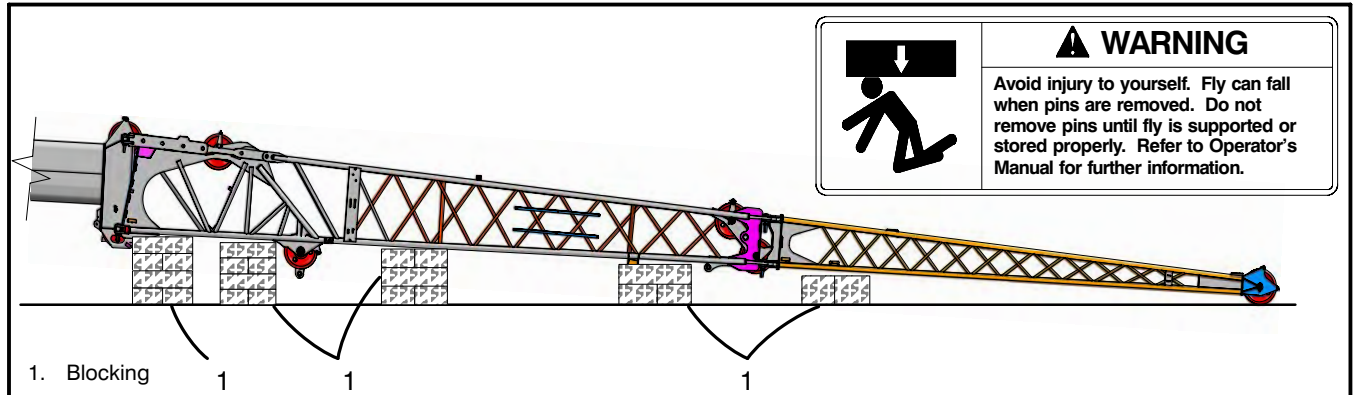

Figure 4–14
The crane may be equipped with either a one, two, or three piece offset lattice fly. The offset lattice fly section, as shown in Figure 4–15, connects to the main boom head. It can be used in one of four offset positions: 2°, 15°, 30°, or 45°. The fly extends the boom length for greater heights. The fly center section extends the fly from 10 ft (3.0m) to 31 ft (9.4m). The tip section of the fly extends its overall length from 31 ft (9.4m) to 55 ft (16.8m). Once installed, the offset lattice fly section(s) can be stored on the right side of the boom base section.
2. Check that the fly adaptor lug and offset connecting pins are installed in the 2° offset position. Refer to Figure 4–16.
3. Pin the fly base, fly center, and fly tip together on secure blocking. Refer to Figure 4–14. The fly base section weighs approximately 1,393 lb (632kg), the fly center section approximately 1,937 lb (879kg), and the fly tip section approximately 797 lb (362kg).
6. Remove the four fly connecting pins from the storage rings at the right rear of the fly base section. Refer to Right Side Fly Base Connecting Pin Label, Figure 4–10 and Figure 4–15. Install all four pins to connect the fly lugs to the boom head machinery cross shafts on the right side of the boom. (Install the pins with the head on top and keeper on the bottom.) Install the pin keepers.
7. Remove the two fly connecting pins from the boom head machinery cross shafts on the left side of the boom head. Refer to Left Side Fly Base Connecting Pin Label, Figure 4–11 and Figure 4–15. Install the top pin to connect the fly lug to the boom head machinery cross shaft on the left side of the boom head. Turn the t-handle as required to push and align the bottom left fly lug and the bottom boom head machinery cross shaft. Install the bottom left fly connecting pin. (Install the pins with the head on top and keeper on the bottom.) Install the pin keepers. Back off the t-handle until at least a 1/2 in (1.3cm) clearance from the fly lug is obtained.
- a. Disconnect the plug assembly from the jumper assembly on main boom head and connect it to the fly base section. Refer to Figure 4–3. Ensure all necessary anti-two block harness connections have been made.